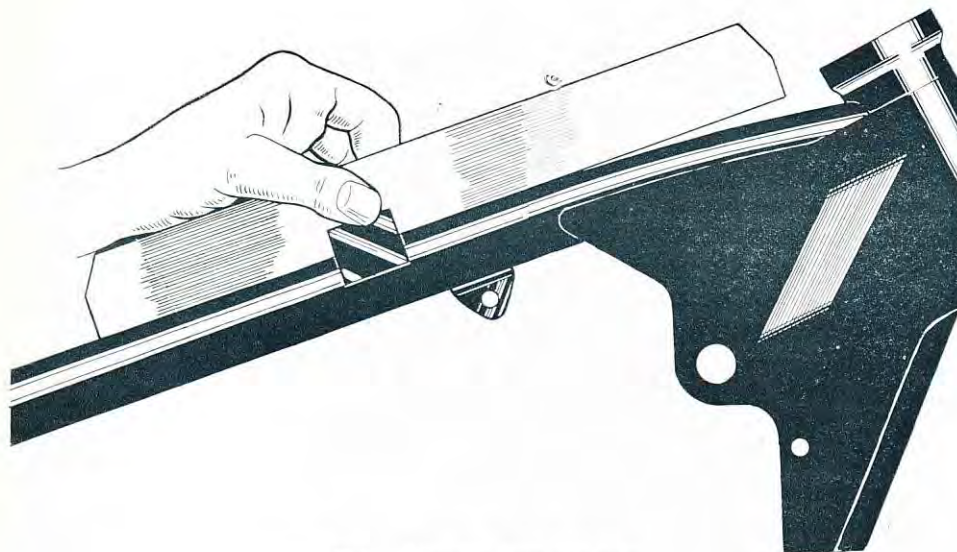

FIG. D4. *Showing bent top tube.*
Sometimes if the machine has been subjected to a frontal impact, the main tube may remain parallel at points (A) but will be bent as shown in Fig. D4. A straight-edge made from a piece of good quality hardboard can be used for this purpose, but the checking edge must be quite straight.